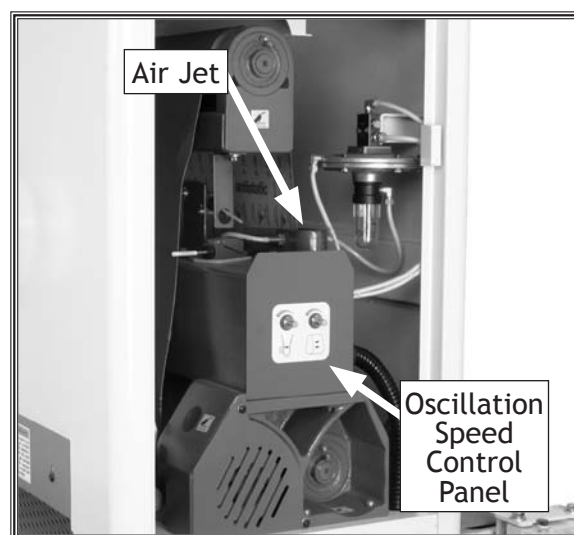

Figure 27. Oscillation system.
- If you want the belt oscillation to oscillate from left to right in shorter and faster sweeps, loosen the jam nut and then rotate the oscillation speed knob counterclockwise (**Figures 27 and 28**).
- If you want the belt oscillation to oscillate from left to right in longer and slower sweeps, loosen the jam nut and then rotate the oscillation speed knob clockwise (**Figures 27 and 28**).